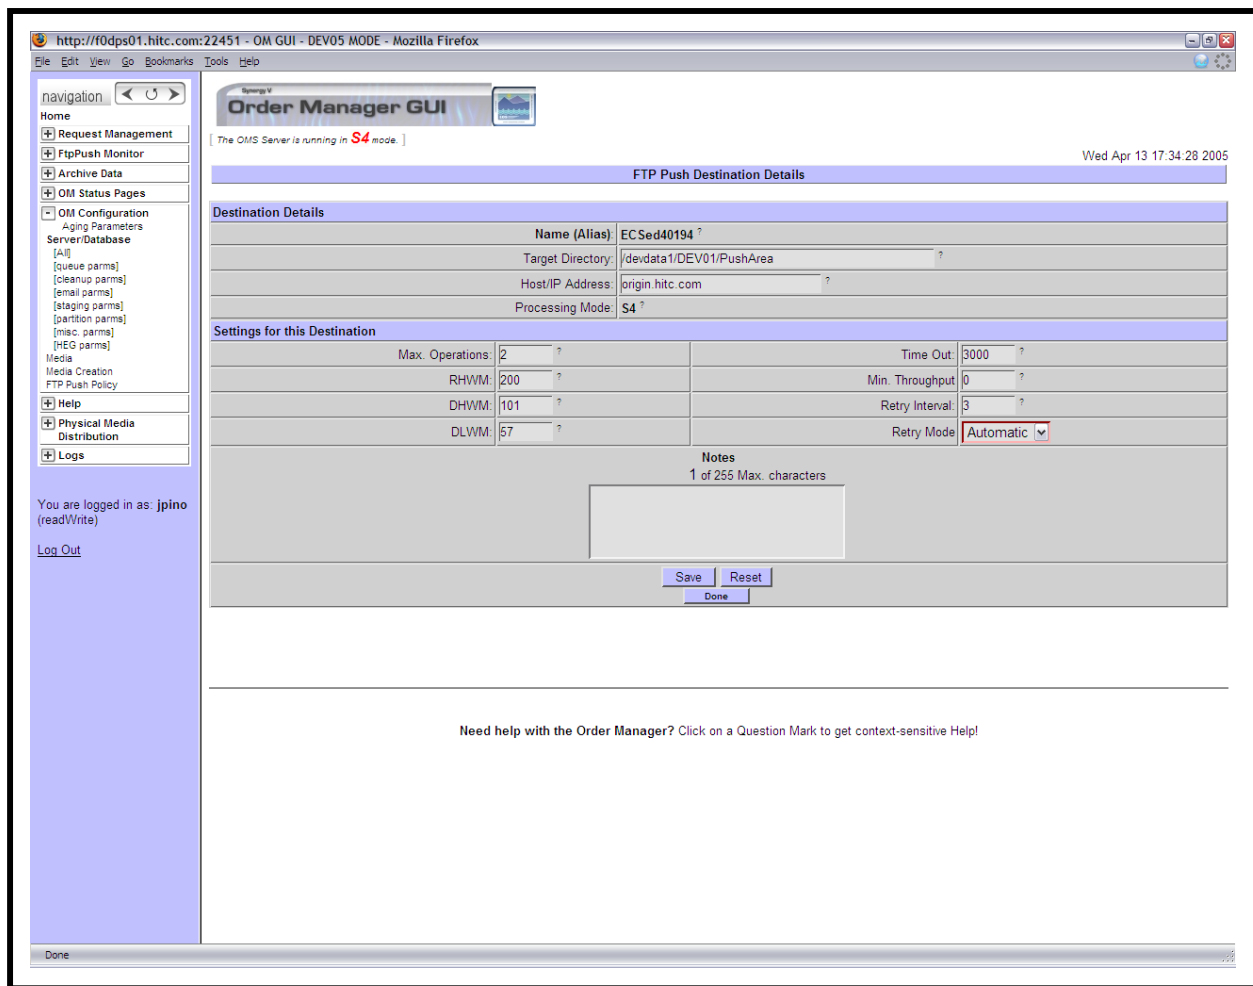

Figure 66. FTP Push Destination Details Page
- The **FTP Push Destination Details** page (Figure 66) displays the following types of data concerning the destination in the **Destination Details** area:
- The **FTP Push Destination Details** page (Figure 66) displays the following types of data concerning the destination in the **Settings for this Destination** area: